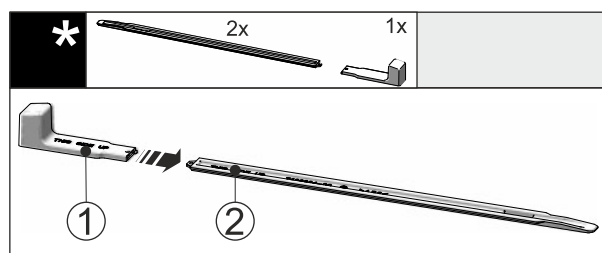

Fig. 47
- Attach the installation handle Fig. 47 (1) to the levelling rail Fig. 47 (2).